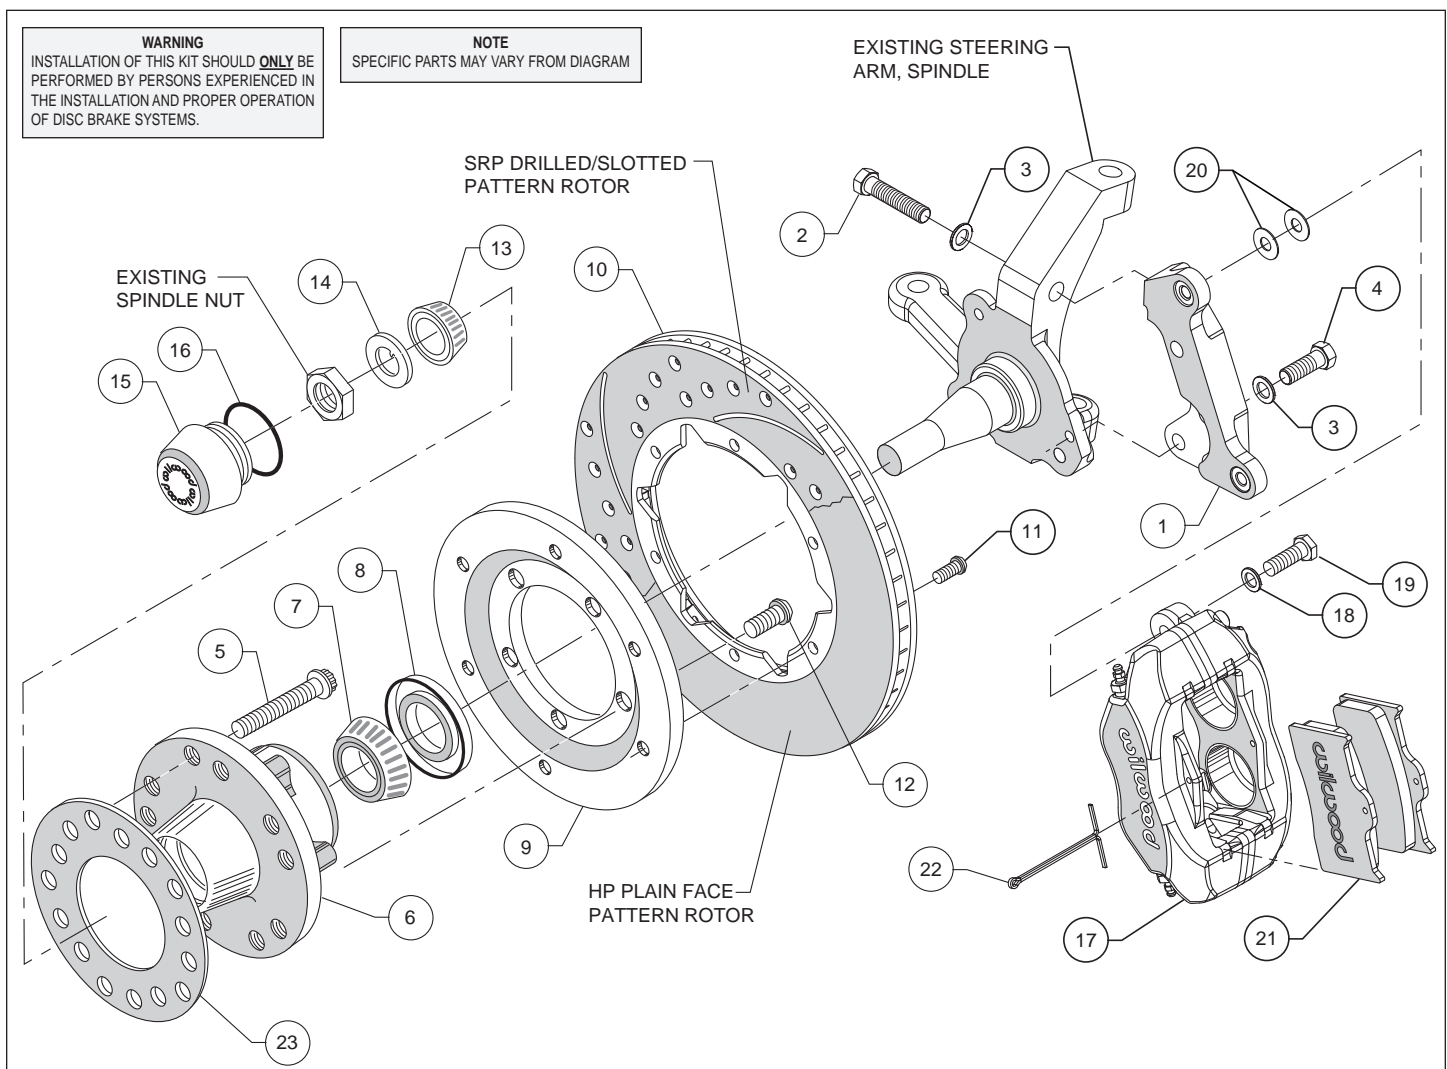
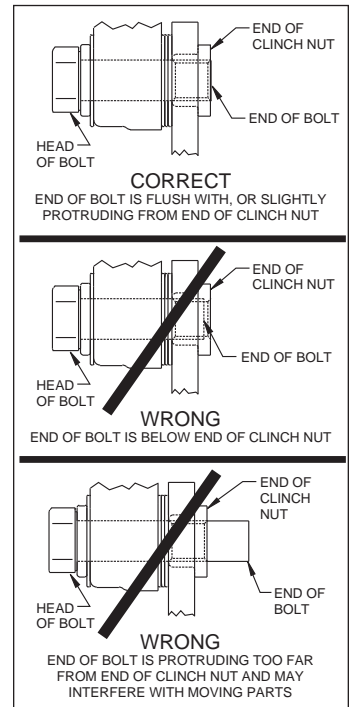

Figure 1. Typical Installation Configuration
Figure 3. Clinch Nut Engagement Diagram
Assembly Instructions (numbers in parenthesis refer to the parts list, on the preceding page and Figure 1): **CAUTION:** All mounting bolts must fully engage clinch nuts. Be sure to check that all bolts are either flush or protruding through flanged side of clinch nut after shimming, Figure 3.
- Align caliper mounting bracket (1) with the corresponding holes on the spindle. Attach using bolts (2 and 4) and washers (3) as shown in Figure 1 and Photo 1. Temporarily tighten the mounting bolts. Ensure that the flanged heads of the clinch nuts in the bracket are facing outboard, Photo 1. **NOTE:** The bracket must fit squarely against the mounting points on the spindle. Inspect for interference from casting irregularities, machining ridges, burrs, etc. Remove bolts one at a time, apply red *Loctite*® 271 to threads and torque to 47 ft-lbs.
- Orient the rotor (10) and the rotor adapter (9) as shown in Figure 1 and Photo 4. Attach the rotor to the adapter using bolts (11). Using an alternating sequence, apply red *Loctite*® 271 to the threads, and torque to 25 ft-lb.
- Mount the adapter/rotor assembly (9/10) to the hub (6) using bolts (12), as shown in Figure 1 and Photo 5. Using an alternating sequence, apply red *Loctite*® 271 to the threads, and torque to 55 ft-lb.
- NOTE:** Please reference the caution statement at the beginning of the assembly instructions. Mount the caliper (17) onto the caliper mounting bracket (1) using bolts (19) and washers (18), as shown in Figure 1. Initially place two .035" thick shims (20) on each bolt between the caliper and the bracket, Photo 8. Temporarily tighten the mounting bolts and view the rotor (10) through the top opening of the caliper. The rotor should be centered in the caliper, Photo 9. If not, adjust by adding or subtracting shims between the bracket and the caliper. Always use the same amount of shims on each of the two mounting bolts. **NOTE:** The end of each bolt must be flush with or slightly protruding from the head of the clinch nut, as shown in Figure 3. If necessary place spare shims between washer (18) and caliper mounting ear to achieve the proper clinch nut engagement. Once the caliper alignment and clinch nut engagement are correct, remove the bolts one at a time, apply red *Loctite*® 271 to bolt threads, and torque to 40 ft-lb.